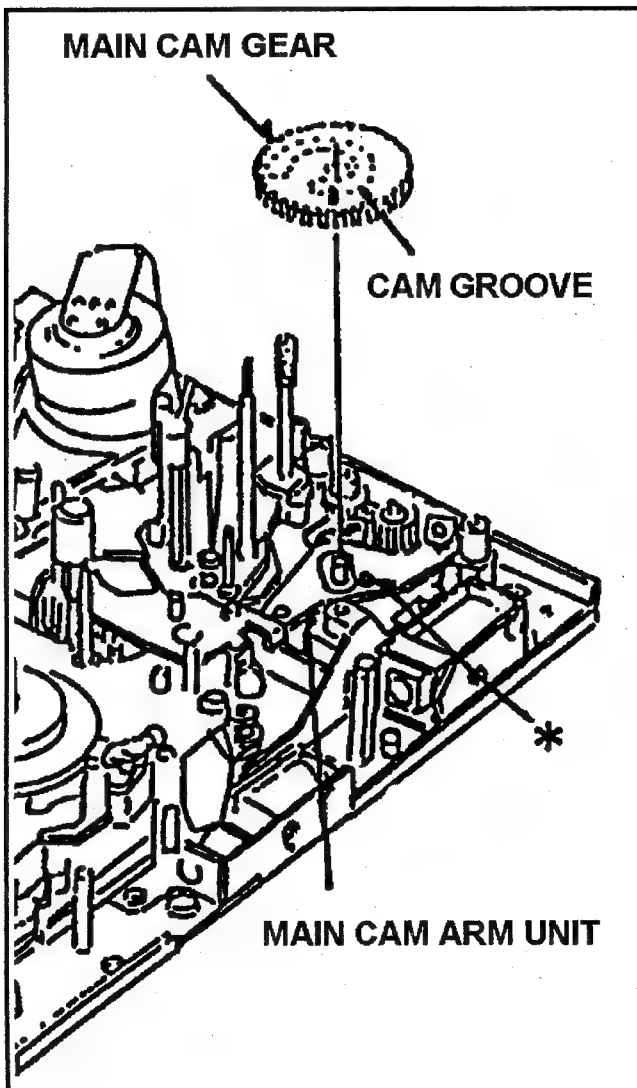

Fig. 6-19-1 Removal of Main Cam Gear
3. Remove the Pinch Solenoid Unit (Refer to item 6-8) and Loading Motor Neutral Unit (Refer to item 6-4).
4. Remove the Main Cam Gear as shown in Fig. 6-19-1.
1. Install the Main Cam Gear so that the pin of Main Cam Arm Unit (\*) should be matched with the groove position of Main Cam Gear as shown in Fig. 6-19-1.
3. After installation, Pinch Solenoid Position Adjustment is required (Refer to item 5-3).